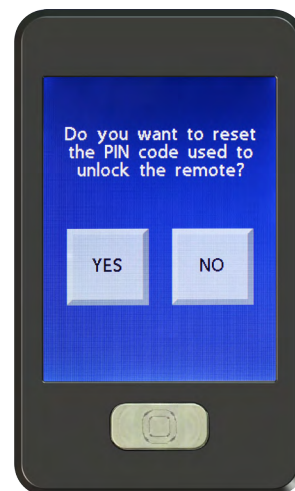

Fig.46
- A. "Set Pin" (Fig.45A) will allow the user to reset the pin and enter a new one. Once the "Set Pin" option is selected the user will be asked for verification that they want to reset the pin (Fig. 46). Select "Yes" and the pin will be reset, follow steps 10-12 of the "Configuring the Remote" section. Select "No" to keep the current pin.